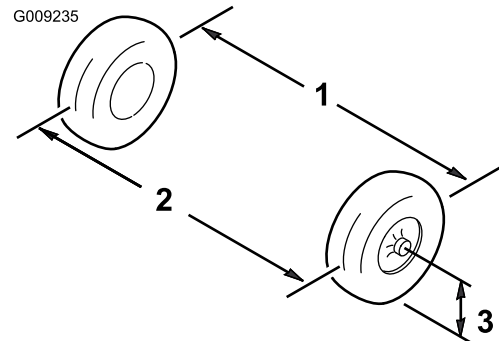

Figure 48
1. Measure the distance between both of the front tires at the axle height at both the front and rear of the front tires (Figure 48).